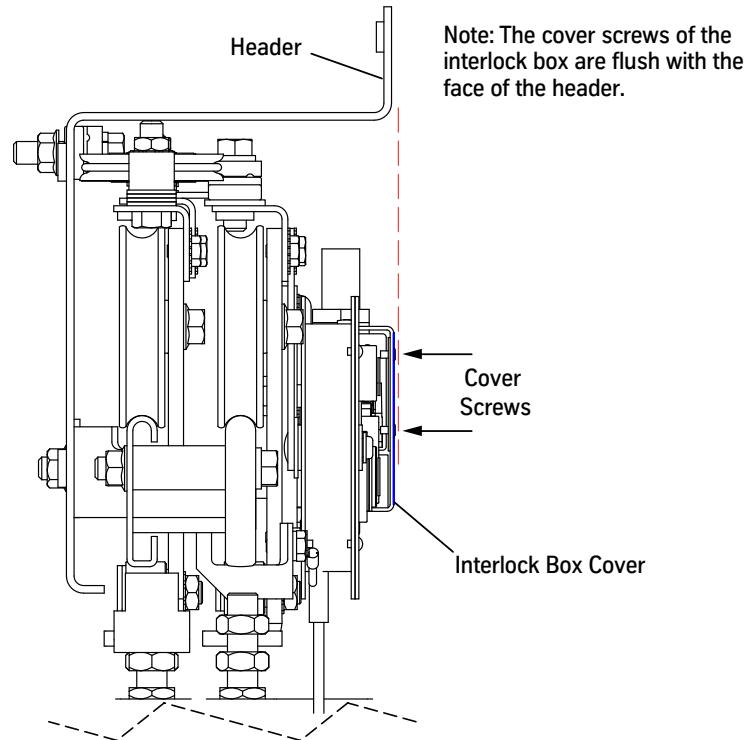

Figure 43 - Interlock Contact Box Installation
1. Install the interlock contact box. Evenly align the cover screws with the face of the header. See Figure 43.